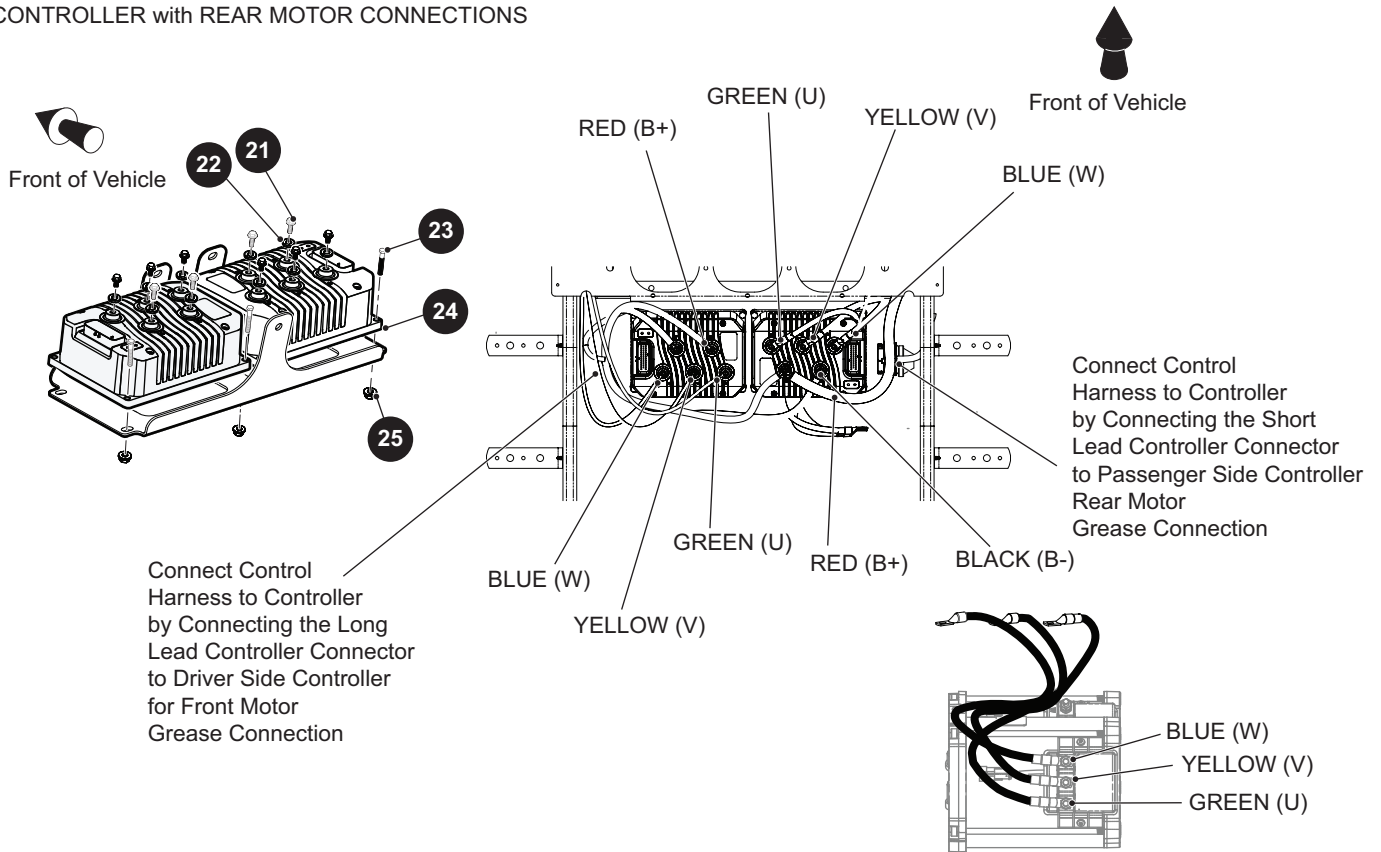

Fig. 10 Controller Removal
2. Remove the bolts (21) and flat washers (22)(Ref. Fig. 10).
3. Remove the connectors from the controller (24) (Ref. Fig. 10).
5. Remove bolts (23) and lock nuts (25)(Ref. Fig. 10).
6. Remove the controller (24) from the controller bracket(Ref. Fig. 10).
7. Mount new controller (24) and connect wiring(Ref. Fig. 10).